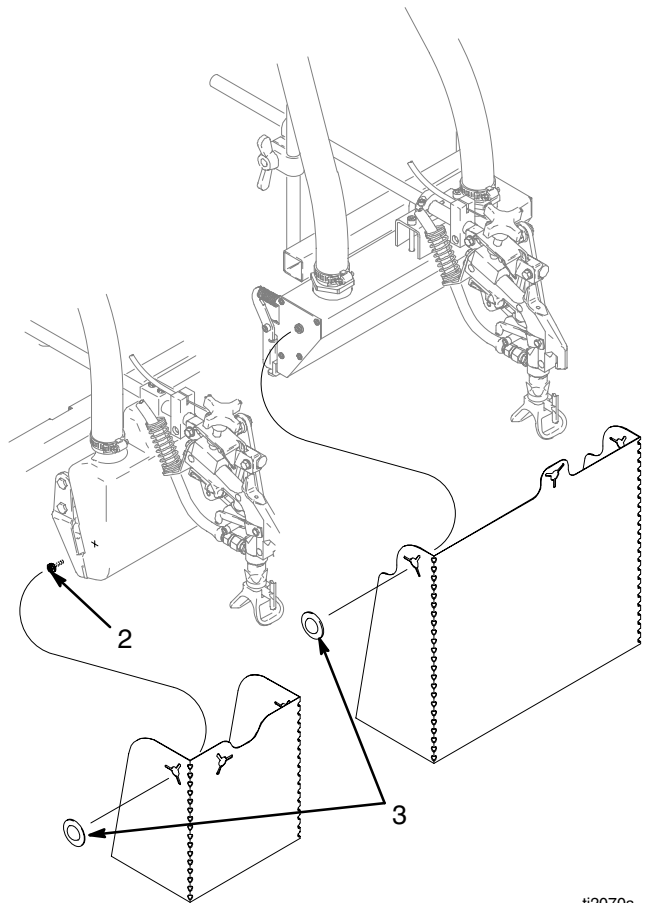

Fig. 2
3. Fig. 2. Install snaps (3) in wind deflector.